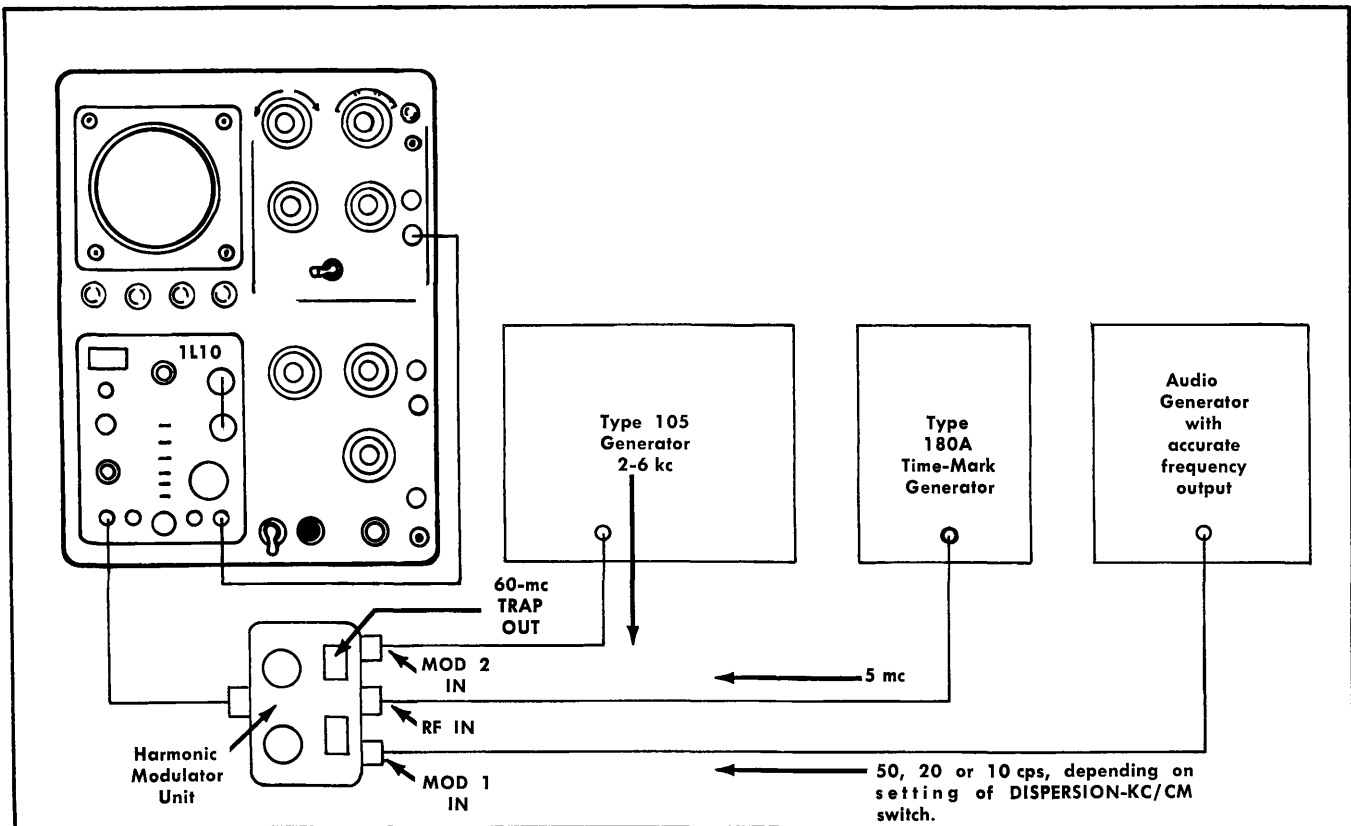

Fig. 4-6. Equipment setup for Dispersion Check/adjustment at .01, .02, .05 KC/CM settings of DISPERSION-KC/CM switch.
14. Set up the equipment as shown in Fig. 4-6.